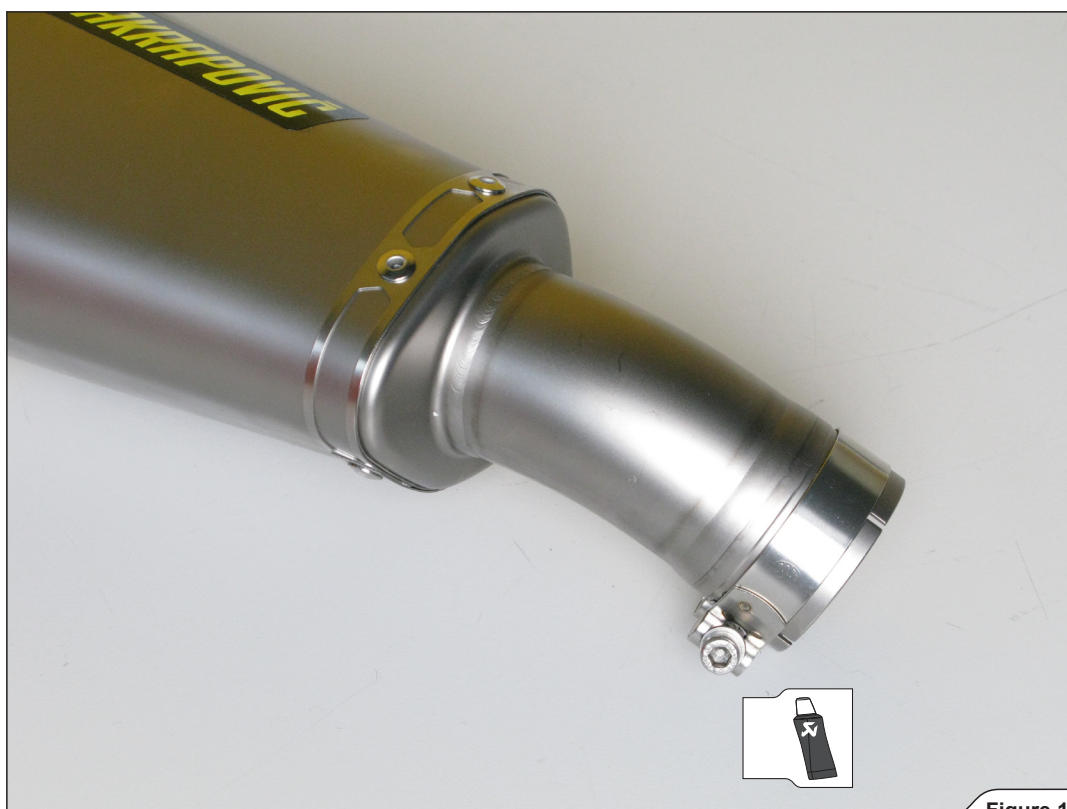

Figure 10
2. For optional link pipe only: install the metal clamp (R10) onto the muffler inlet bush as shown (Figure 10).